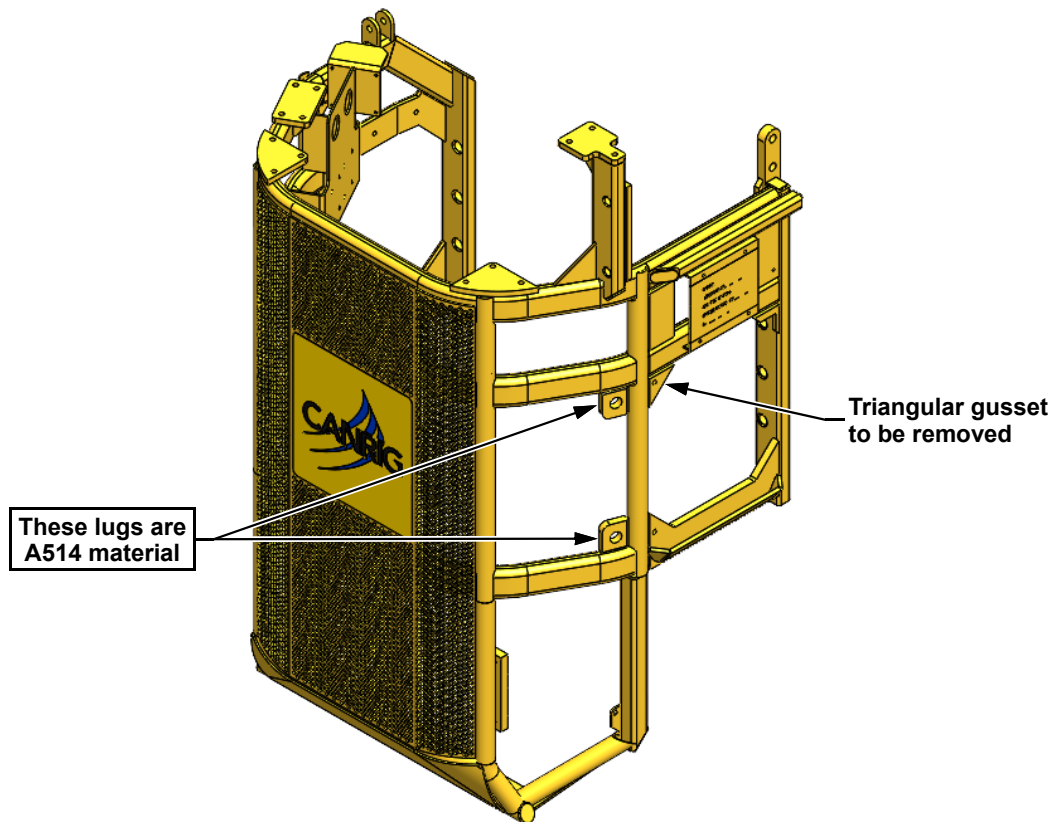

Figure 8: Triangular gusset to be removed.
- If the guard is DT33192 Rev D, then the bottom ODS beam will be 1" plate. In this case, one (1) of plate P/N: DT27200-2 (Item 3A) is required.
1. Remove existing 4" x 4" x 1/2" triangular gusset (See Figure 8) on the top ODS.